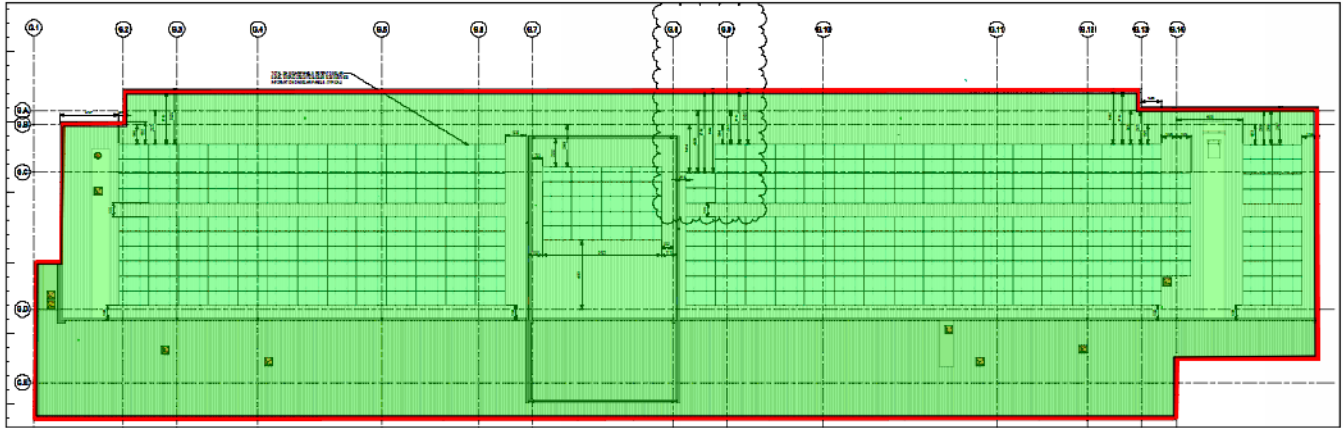

Figure 2. Panel layout (Provided by the client) and roof zone definition
- Refer to figure 2 to find proposed panel layout.